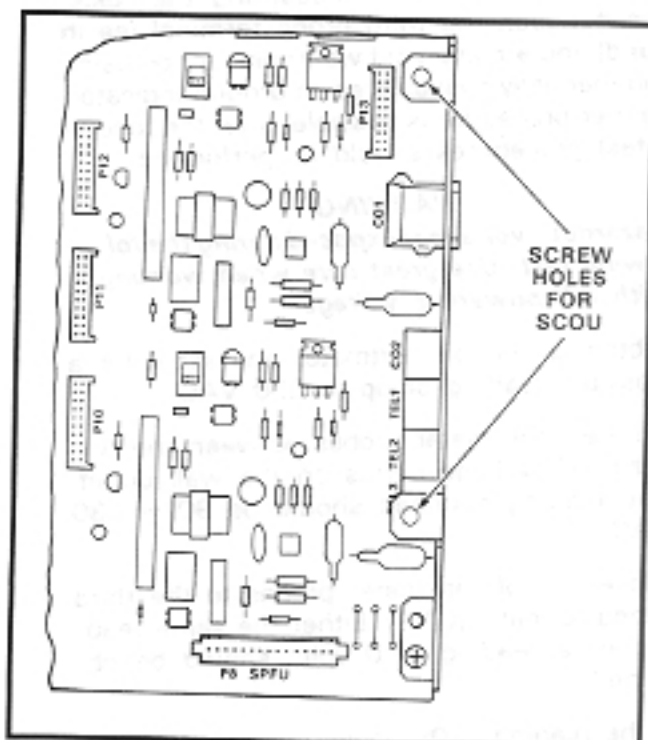

FIGURE 7—SCOU and SPFU LOCATIONS
05.22 The SCOU PCB mounts on four 10-pin connectors at the bottom of the SMAU PCB into **P10**, **P11**, **P12** and **P13** connectors (Figure 7). Secure the SCOU PCB to the right side panel with the two provided screws.
05.32 Install into the connector marked **SPFU** at the bottom of the SMAU PCB (Figure 7).